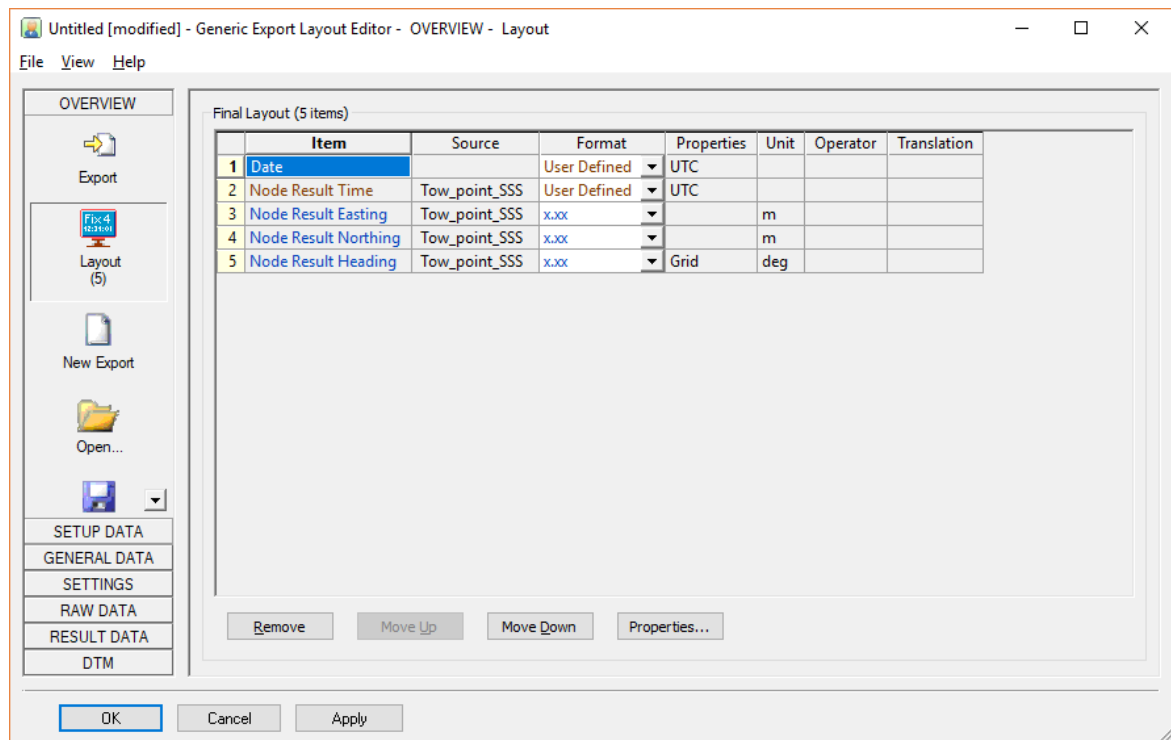

Figure 1.14. Window Overview → Layout.
10) Pass to the tab Overview → layout. We check that the sequence of lines corresponds to Figure 1.14.